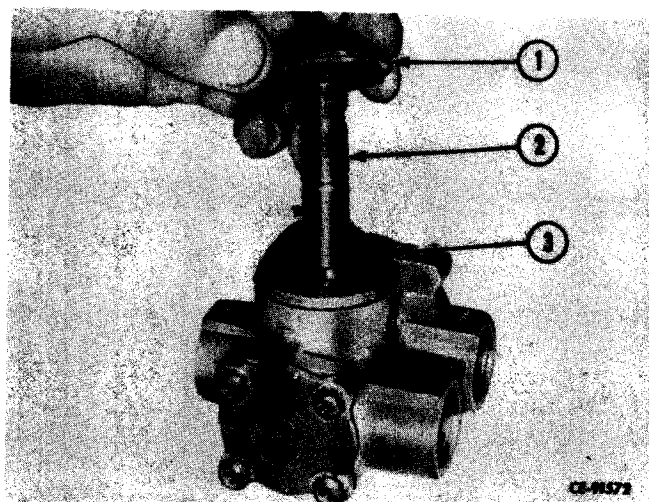

Figure 14-8
Slide flux plate (1, Fig. 14-8) and spring washer (3) from sleeve (2).
Install spring washer (3, Fig. 14-8) and flux plate (1) over sleeve (2).